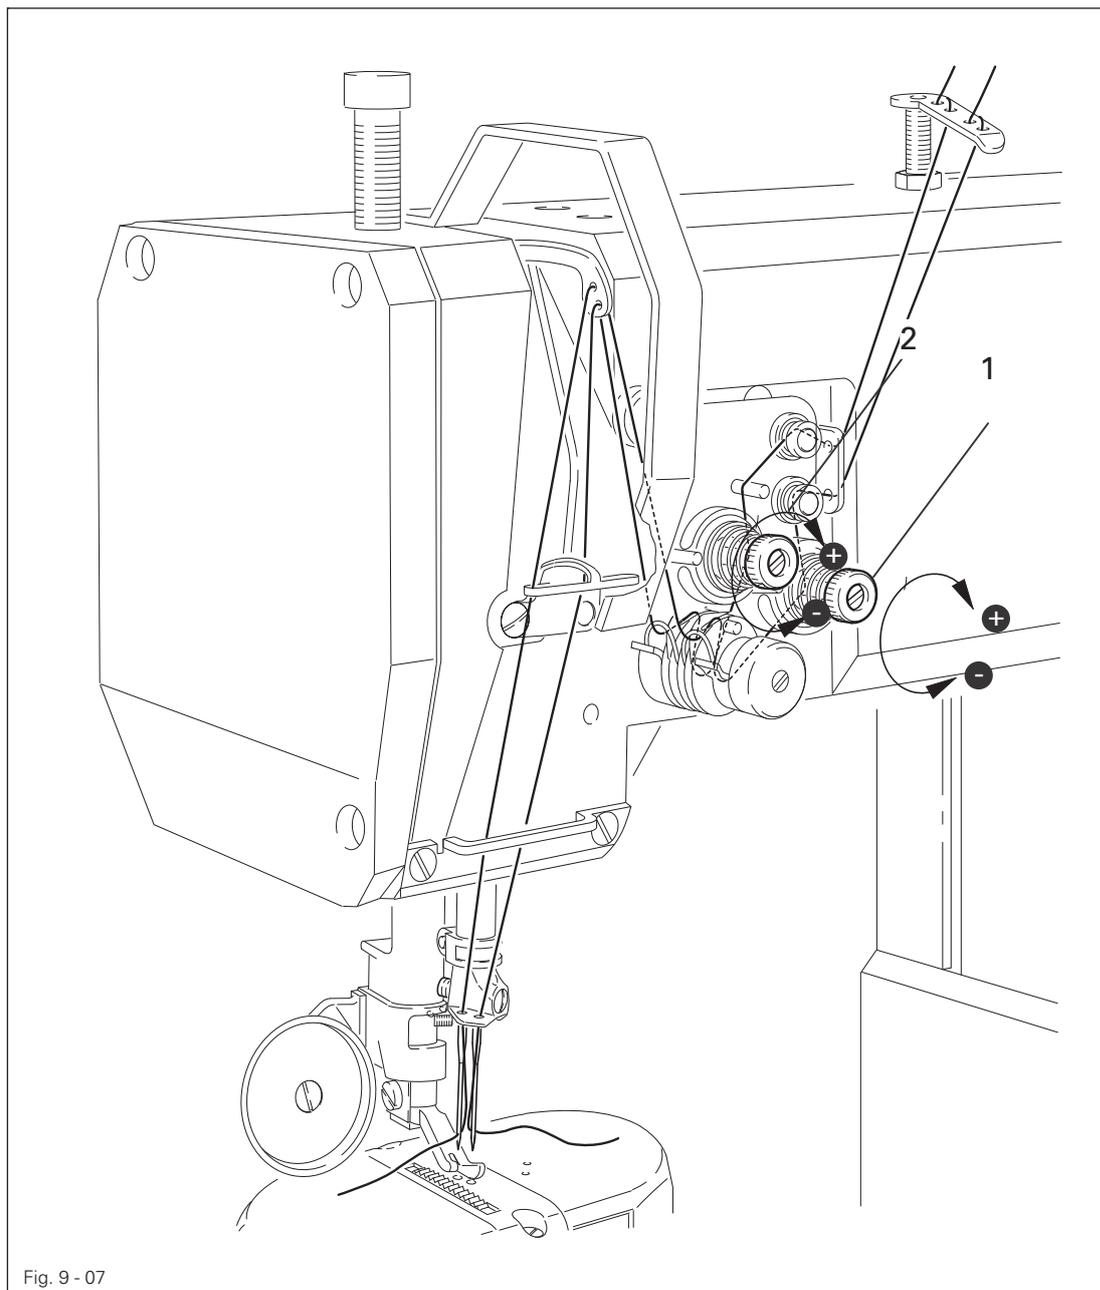

Fig. 9 - 07
- Thread the needle thread as shown in Fig. 9 - 06. Please ensure that the needle is threaded from the left.
- Thread the needle thread as shown in Fig. 9 - 07. Please ensure that the right needle is threaded from the left and the left needle is threaded from the right.